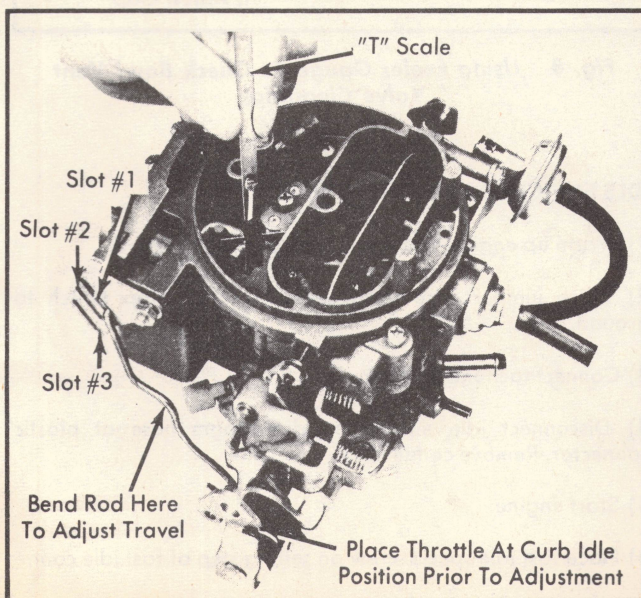

Fig. 4 Using "T" Scale To Measure Pump Travel
- 4) Adjust by bending operating rod until correct travel has been reached. See Fig. 4.